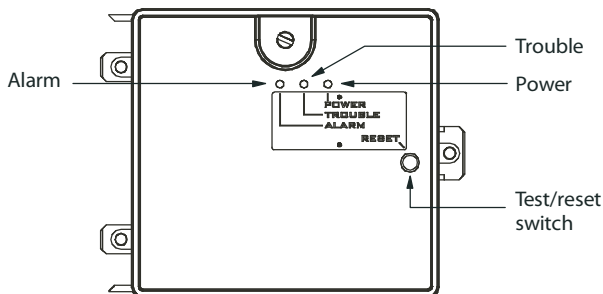

Fig. 27 – Controller Assembly
- The contacts on the controller's supervisory relay switch positions. (See Fig. 27.)